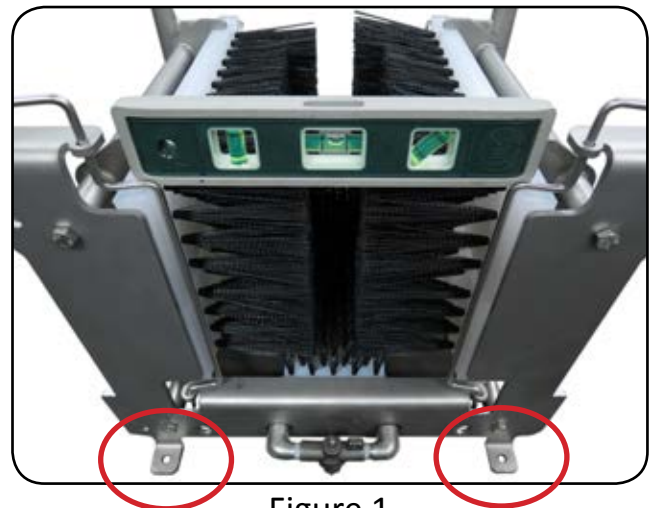

Figure 1
3. Once the unit is in the desired location, use a level to make sure the unit is stable and level in all directions. Make sure the location is a flat surface. (Figure 1).
4. **Securely fasten unit to the floor with concrete anchors and bolts through the 4 mounting brackets (Circled in red in Figure 1 & 2).**